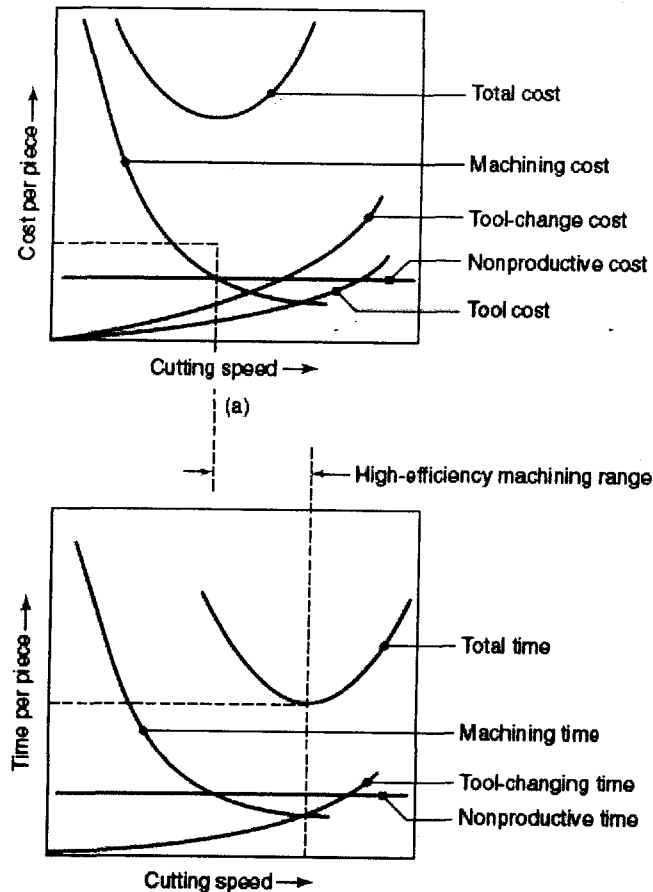

Figure Q1[b] – Machining Economics
- [b] Discuss briefly how would you go about reducing the total machining cost in order to meet the level of economics in machining by referring to the following Figure Q1[b].